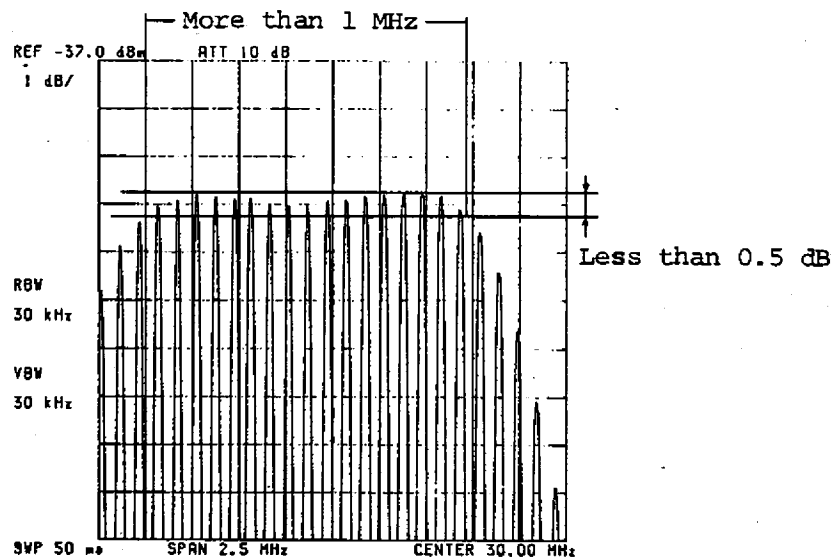

Fig. 11-55 30 MHz (three stage) B.P.F. adjustment
- (d) Using the external spectrum analyzer with the high impedance probe, observe the signal response at the connection between C355 and C356. Press , then use the DATA knob to change the Step FM setting. Adjust C342, C343, and C344 so the observed 30 MHz (three stage) B.P.F. response has a 1 MHz 0.5 dB bandwidth and a maximum level of about 30.00 MHz is attained. (See Figure 11-55.) Step FM will change in 2 kHz steps. If a smaller frequency stepping is desired, press .